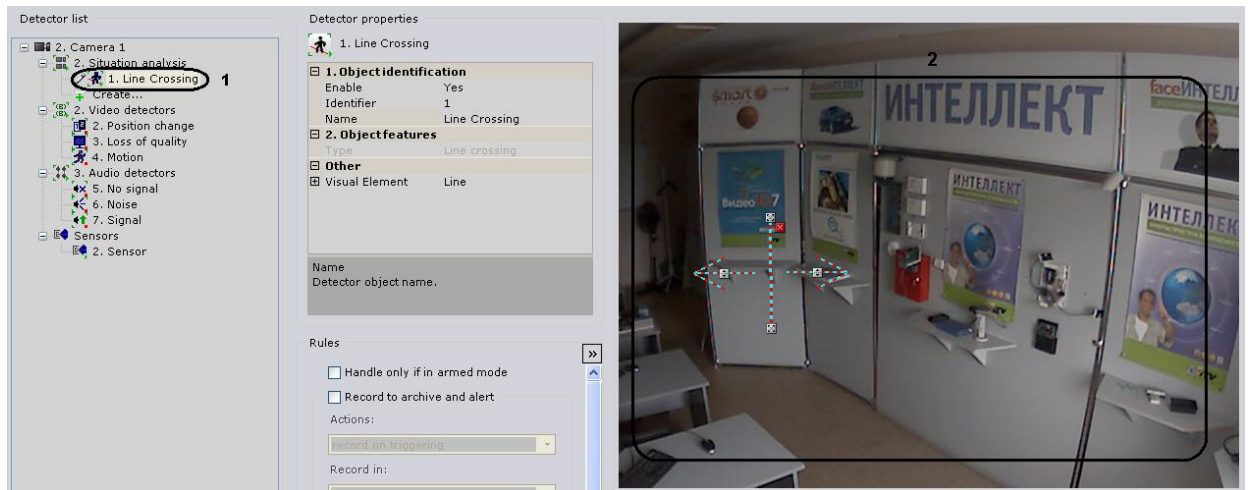

Fig. 6.5—8 Setting a line
1. In the list of detectors, highlight a **Line crossing** object (Fig. 6.5—8, 1).
- In the viewing tile (see Fig. 6.5—8, 2), set the end points of a line which, when something crosses it, will trigger the line crossing detector (Table 6.5—4).
NOTE. When the line is being constructed, the end points are connected by a two-color dotted line. The direction of the object's motion across the line is indicated by dotted arrows (see Fig. 6.5—8, 2).